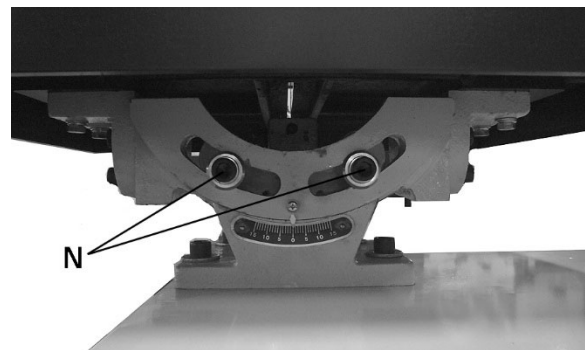
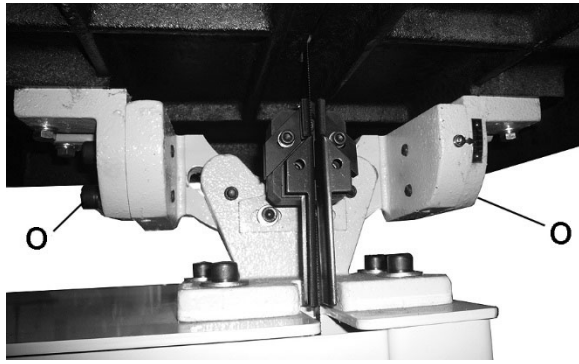

Figure 4
Figure 5
**Table Tilt Mechanism** – located under work table. To tilt table left or right, loosen two socket head cap screws (N, Figure 4) at rear of mechanism. To level table front to back, loosen four socket head cap screws (O, Figure 5) on either side of mechanism.